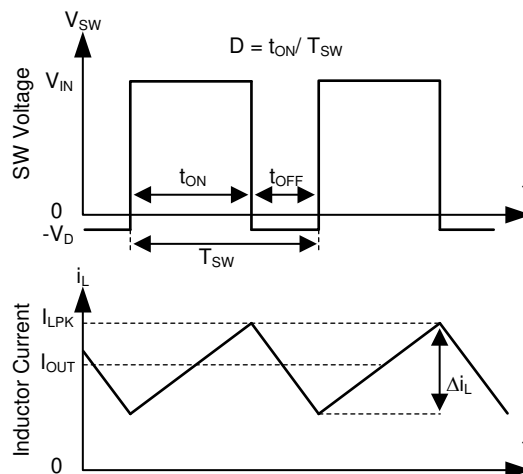

Figure 10-1. SW Node and Inductor Current Waveforms in Continuous Conduction Mode (CCM)
The following operating description of the TPS25830-Q1, TPS25831-Q1 will refer to the Functional Block Diagram and to the waveforms in Figure 10-1. TPS2583x-Q1 is a step-down synchronous buck regulator with integrated high-side (HS) and low-side (LS) switches (synchronous rectifier). The TPS2583x-Q1 supplies a regulated output voltage by turning on the HS and LS NMOS switches with controlled duty cycle. During high-side switch ON time, the SW pin voltage swings up to approximately V_{IN} , and the inductor current i_L increase with linear slope $(V_{IN} - V_{OUT}) / L$. When the HS switch is turned off by the control logic, the LS switch is turned on after an anti-shoot-through dead time. Inductor current discharges through the LS switch with a slope of $-V_{OUT} / L$. The control parameter of a buck converter is defined as Duty Cycle $D = t_{ON} / T_{SW}$, where t_{ON} is the high-side switch ON time and T_{SW} is the switching period. The regulator control loop maintains a constant output voltage by adjusting the duty cycle D . In an ideal buck converter, where losses are ignored, D is proportional to the output voltage and inversely proportional to the input voltage: $D = V_{OUT} / V_{IN}$.
The TPS2583x-Q1 is internally compensated as shown in Figure 10-1. The internal compensation is designed such that the loop response is stable over the specified operating frequency and output voltage range. The TPS2583x-Q1 is optimized for transient response over the range $300 \text{ kHz} \leq f_{sw} \leq 2300 \text{ kHz}$.